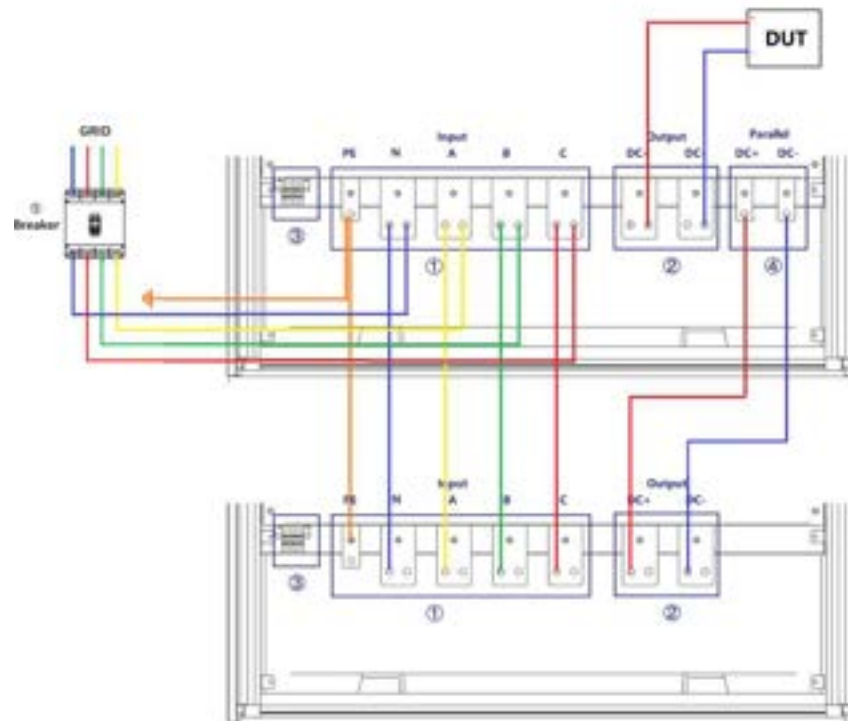

Figure 2-14 Equipment wiring completion status
Step 5: After completing the above work, the wiring status of power supply is shown in Figure 2-14. Restore the bottom baffle on the front side, close the cabinet door, then, the equipment installation is complete.